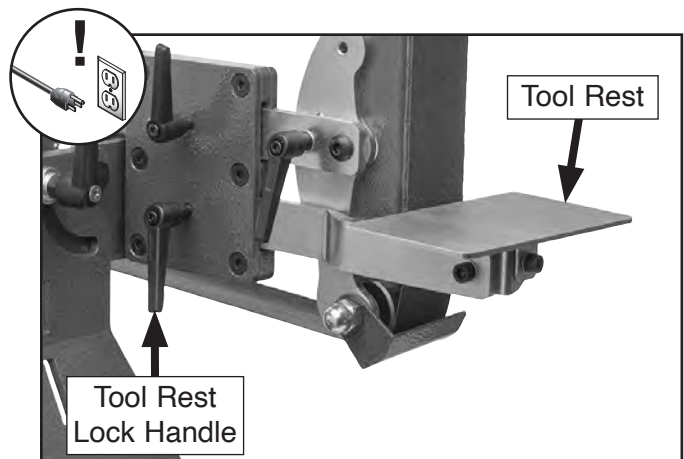

Figure 32. Location of tool rest and tool rest lock handle.
6. Loosen tool rest lock handle, install and adjust tool rest so there is no more than $\frac{1}{16}$ " between rest and belt, then tighten handle to secure (see **Figure 32**).